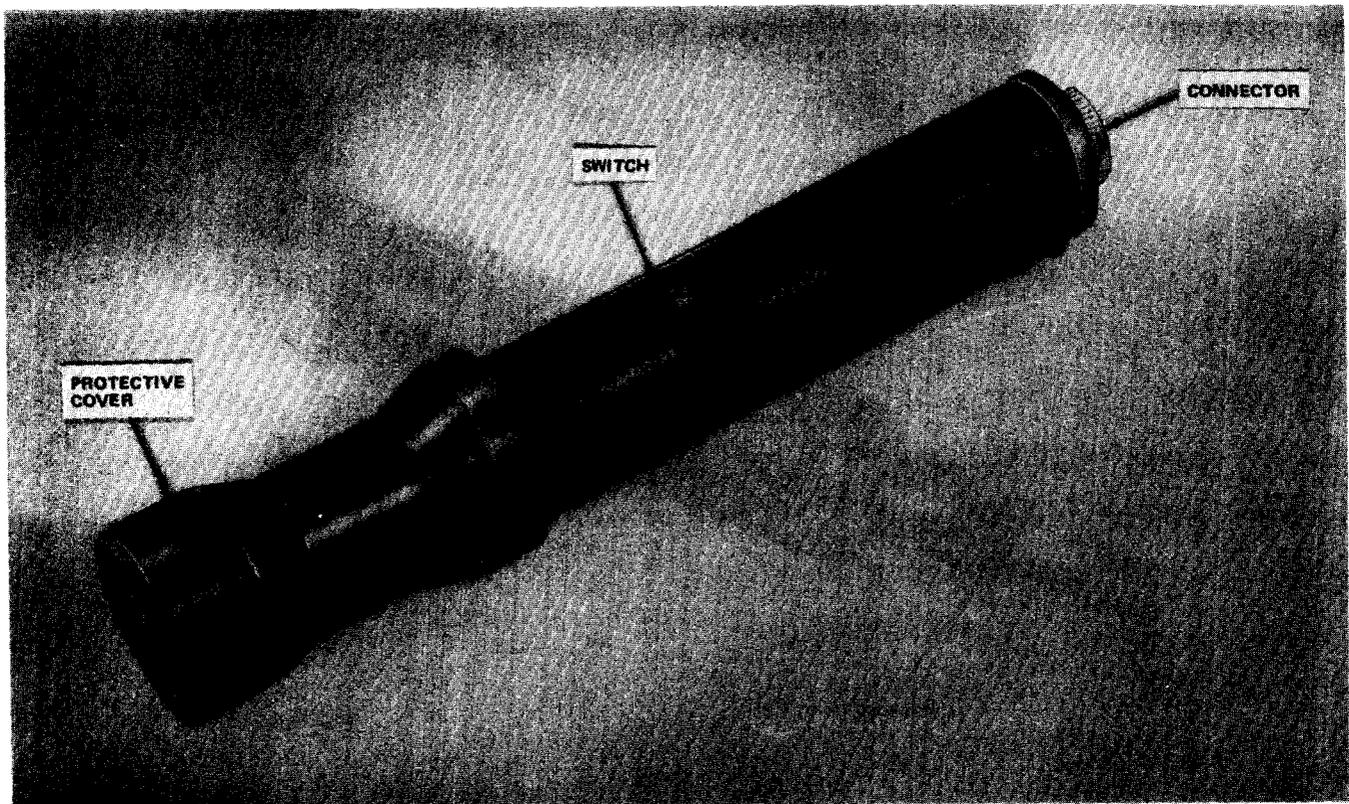

Fig. 4—CP1 Charging Probe
- (c) Remove protective cover from the probe by holding the body of the probe and turning the cover ccw (see Fig. 4 and 5).
- (4) Test the CAP CHG LED by pressing the CAP CHG switch on the control panel.
- (c) Remove the protective cover from the probe by holding the body of the probe and turning the cover ccw (see Fig. 4 and 5).
- (4) Insert the charge probe into the indicator fuse (top) position which serves the selected load fuse F() as follows: